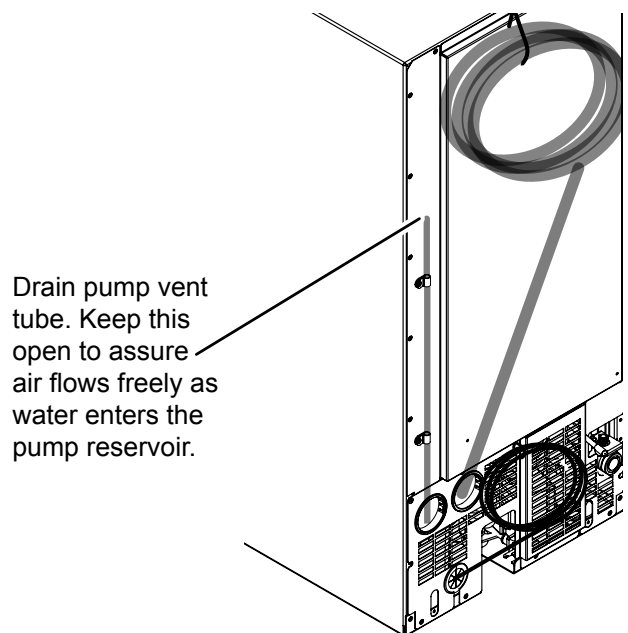

Figure 12: Location of vent tube.
- c. The vent tube on the back of the unit is open (Figure 12).